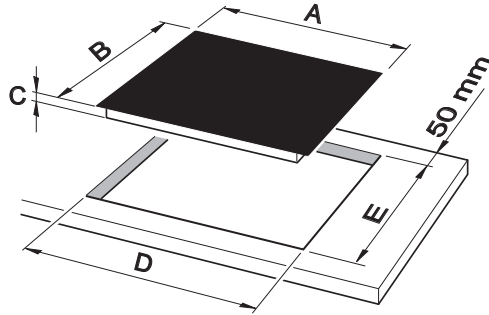

Fig. 1.1a
In order to install the ceramic hob into the kitchen fixture, a hole with the dimensions shown in figures 1.1a and 1.1b has to be made, keeping in consideration the following:
- Cut the unit according to the dimensions in fig. 1.1a or 1.1b.